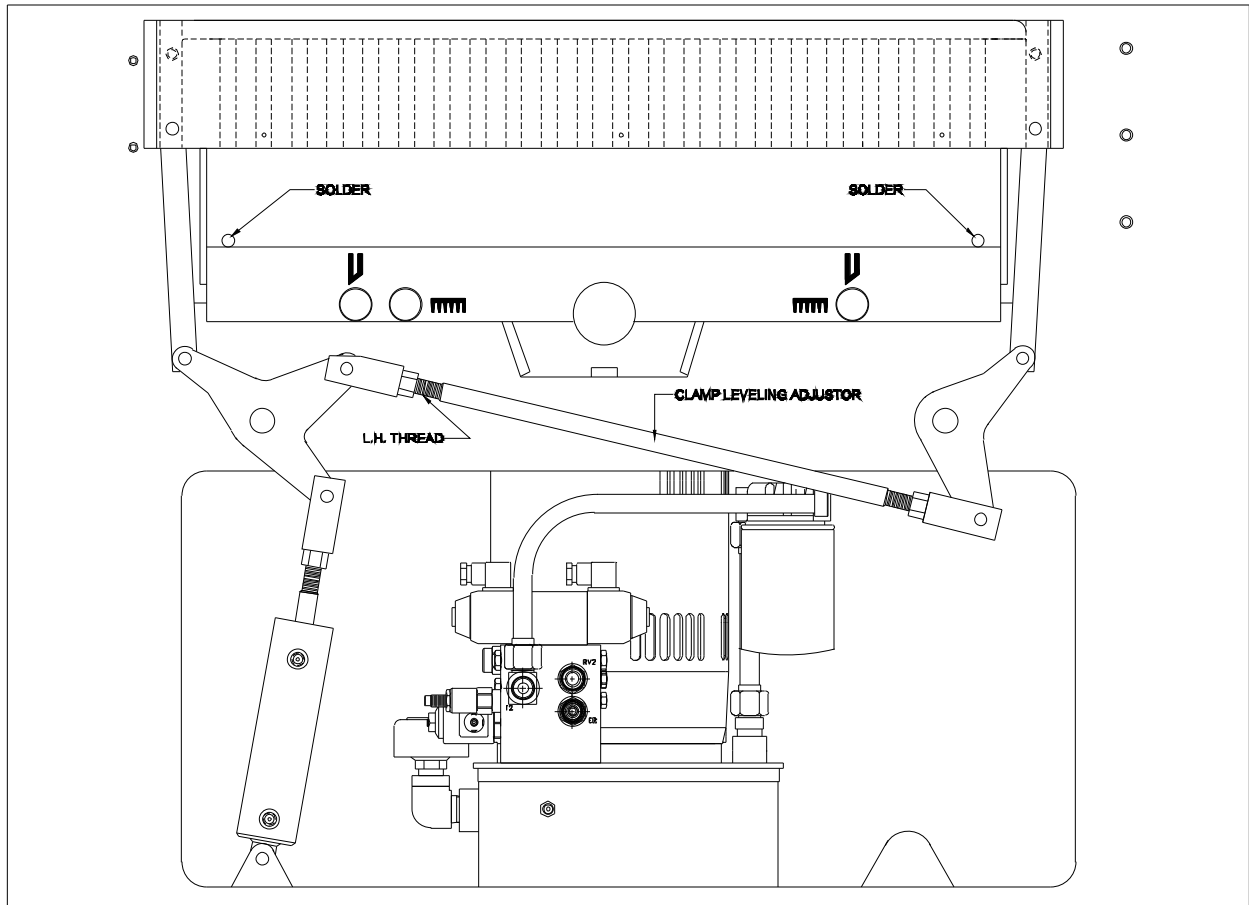

Fig 9
3. Place two (2) pieces of 1/8" solid core solder on the table surface under the end clamp fingers on each side, flush with the rear side of the cut stick groove in the table. Fig. 9.
4. Turn the "MAIN POWER SELECTOR" switch to "ON" and allow the MPS to reset. Press the two (2) black cut buttons to start the main motor.
5. Press the two (2) black cut buttons and make a complete cycle of the clamp and blade.
10. Using a 15/16" open-end wrench, loosen each lock nut. NOTE: It may be necessary to hold the shaft with channel lock style pliers, while loosening the nuts to insure it does not turn. Fig. 9.